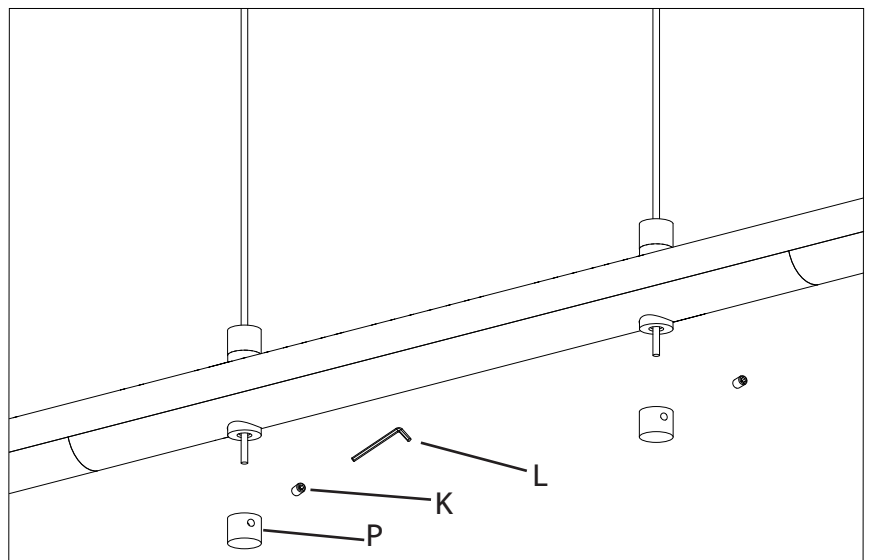

Fig. 4
8. After all arms have been positioned, trim any excess cable, leaving 1/4" exposed and install the cable finishing cap (P) and secure with small set screw (K) using the provided small Allen key (L) (Fig. 4).